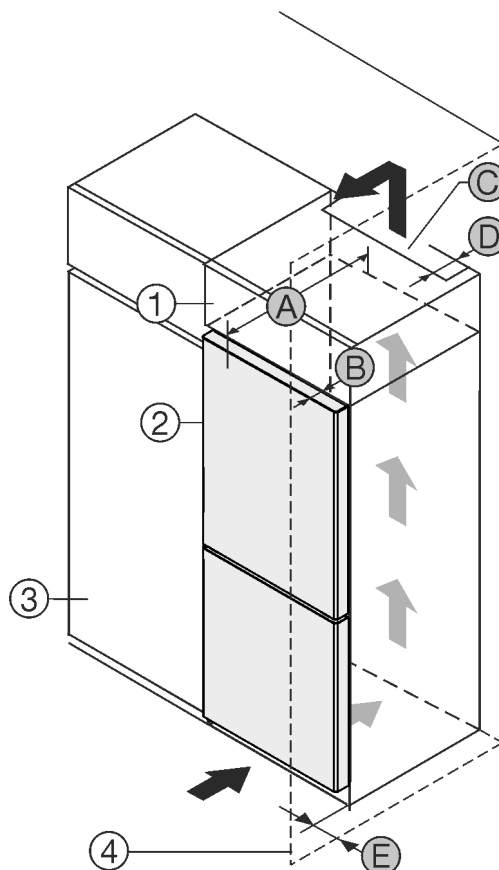

Fig. 1
- (1) Top cupboard
- (2) Appliance
- (3) Kitchen cabinet
- (4) Wall
- (B) Door depth
- (C) Ventilation cross-section
- (D) Distance to the rear of the appliance
- (E) Distance to the side of the appliance
- (A) Appliance depth
Set up the appliance directly next to the kitchen cabinet Fig. 1 (3).
There must be a ventilation shaft at the depth Fig. 1 (D) of the back of the top cupboard over the entire width of the top cupboard.
The cross section of the ventilation gap Fig. 1 (C) must be maintained below the ceiling.
If the appliance is installed with the hinges next to a wall Fig. 1 (4), the distance between the appliance and the wall must be at least 13 mm.
If the appliance is installed with the hinges next to a wall Fig. 1 (4), the distance between the appliance and the wall must be at least 20 mm.
In order to be able to fully open the door, the appliance must protrude by the depth Fig. 1 (B) of the door from the front of the kitchen cabinet. Regardless of the depth of the kitchen cabinets Fig. 1 (3) and use of wall spaces, the appliance can protrude further.